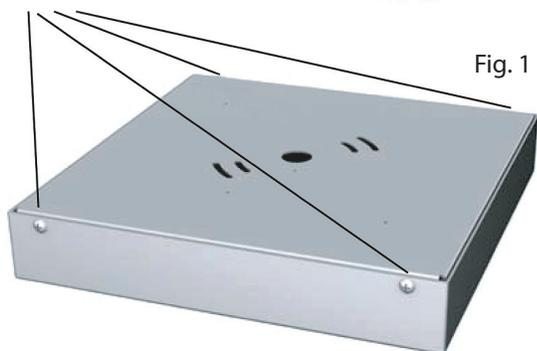

Fig. 1
1. Remove the (4) corner screws to detach the cover plate and unplug the rubber boot electrical harness connector. (Fig. 1)
1. Open the wireway cover by removing the (4) screws. Feed supply wires through prepunched knockout and secure with fitting or bushing (supplied by others) per local code. (Fig.1)
2. The fixture is supplied with a safety harness. Attach the harness to the opening to support the fixture for ease while wiring. After the wiring and installation is complete, leave the safety harness securely in place. (Fig. 1)